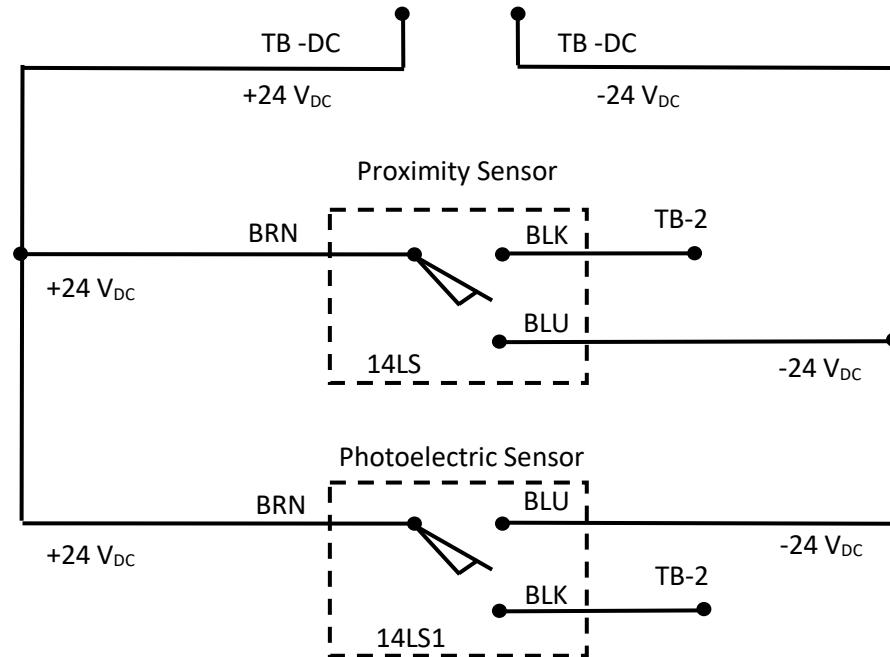

Figure 12-4 Experiment Station Schematic
- Note:** The internal connections are shown in Figure 12-4.
Note: Figure 12-4 shows the internal connections for the photoelectric (14LS1) and the proximity (14LS) sensors.